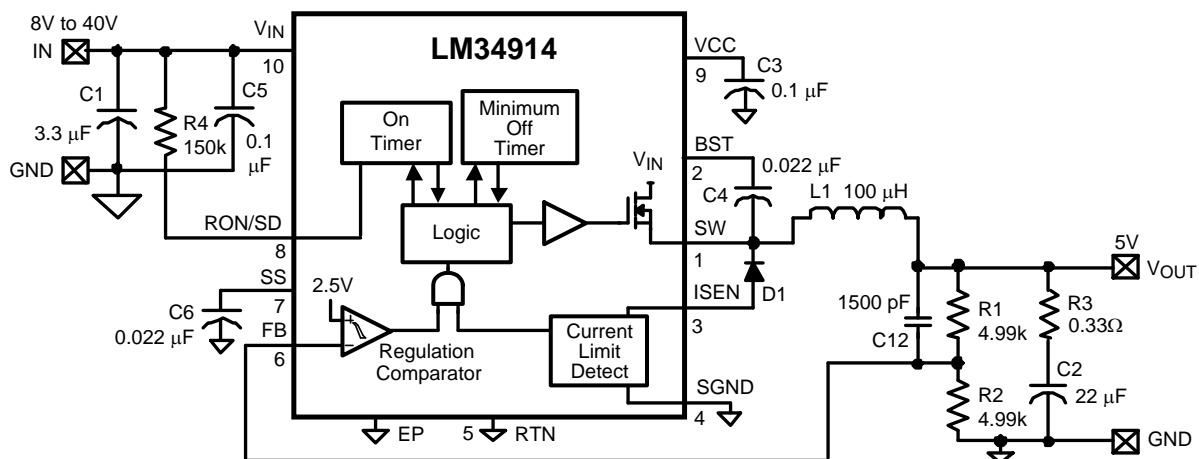

Figure 4. Intermediate Ripple Configuration Using C12 and R3
- Option B) Intermediate Ripple Level Configuration:** This configuration generates more ripple at V_{OUT} than the above configuration, but uses two less capacitors. If some ripple can be tolerated in the application, this configuration is slightly more economical, and simpler. R3, C2 and C12 are used instead of R6 and C7-C10, as shown in Figure 4.
For this evaluation board, $t_{ON(max)}$ is approximately 2700 ns, and $R1//R2 = 2.5 \text{ k}\Omega$, and C12 calculates to a minimum of 1080 pF. In the circuit of Figure 4, the ripple at V_{OUT} ranges from $\approx 30 \text{ mVp-p}$ to $\approx 63 \text{ mVp-p}$ over the input voltage range.